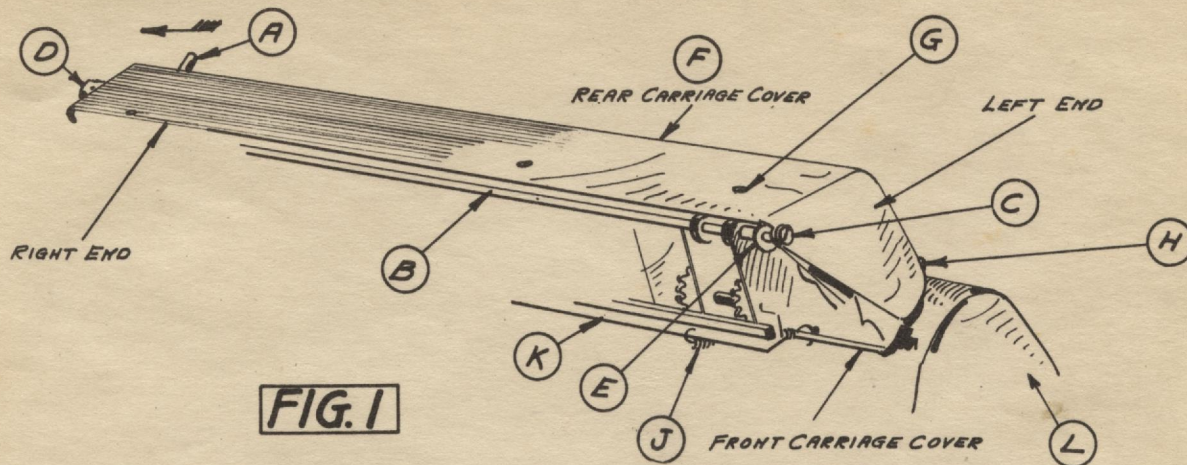

FIG. 1
- 62 TO OBTAIN THE PROPER MESHING AS SHOWN IN FIG 2 OF INTERMEDIATE DIAL GEARS WITH INTERMEDIATE GEARS TWO ADJUSTMENTS ARE PROVIDED ON EACH SIDE OF THE CARRIAGE - SCREWS (U) ARE FOR UP AND DOWN MOVEMENT - FOR BACKWARD AND FORWARD ADJUSTMENT - LOOSEN SCREWS (W) AND ADJUST WITH SCREWS (T) - SEE FIG. 1.
- 64 IF THE HINGE ROD STUD (C), HANDLE (D) AND CARRIAGE SUPPORT LINK (E) ARE ASSEMBLED THEY MUST BE DISMANTLED. HINGE ROD (B) NEED NOT BE DISTURBED.
- 65 MOVE LEVER (A) IN DIRECTION OF ARROW—REPLACE CARRIAGE COVER CASE (F) (RIGHT END FIRST). LIFT UP LINK (E) INTO PLACE AND INSERT STUD (D) AND TIGHTEN SECURELY. REPLACE SCREWS (G) AND (H)—REPLACE HANDLE (D)—AND KNOB AT (A)
- 66 HOOK UP SPRINGS (J) (ATTACHED TO EACH END OF FRONT CARRIAGE CASE (L)) TO THE LOCK LEDGE (K)—AS SHOWN FIG. 1.
- 67 NOTE—WHEN THE CARRIAGES ARE PROPERLY MESHED; BEFORE ADJUSTING THE LOCK LATCHES (M) NOTE CAREFULLY 356 AND 358 ON PLATE 53—THIS BULLETIN.—SEE ALSO PLATE 66A—THIS BULLETIN—